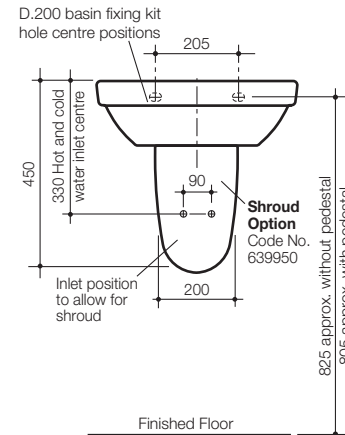

Fig. 1
For timber stud walls, noggin and studs must be positioned at a height to allow for the location of fasteners, as detailed in **Fig. 1**. When installing a shroud, position water inlet connections, as detailed in **Fig. 1**.
- 1- Mark fixing screw hole position on finished wall at the recommended height as detailed in **Fig. 1**.
- 1- Mark fixing screw hole position on finished wall at the height as determined above, approximately 805mm as detailed in **Fig. 1**. Position basin over pedestal and check fixing centres and waste pipe centres. Adjust if necessary.